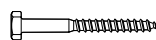

fig. 4
- 4 Reposition the Wall Bracket, and with four lag bolts (fig. 4), secure into place. Tighten with 13mm or 1/2" socket wrench. (fig. 5)**